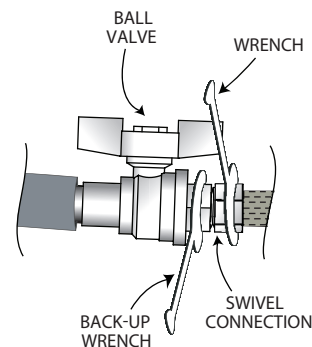

Fig. 29 — 42SM Riser to Unit Installation (Tighten Swivel Connections)
5. Use a wrench to tighten the swivel connections. Use a backup wrench to hold the riser ball valve stationary to prevent it from bending or twisting during installation as shown in Fig. 29. Be careful not to over-tighten swivel connections.